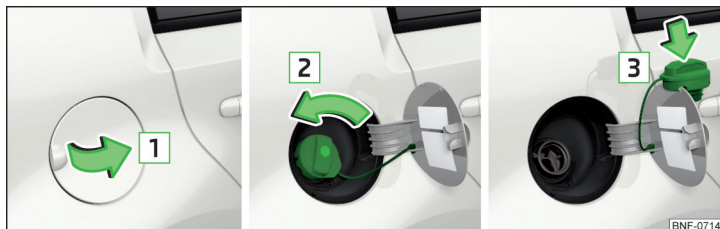

Fig. 103 Opening the fuel filler flap / unscrewing the tank cap / placing the tank cap on the fuel filler flap
The correct fuel grades for your vehicle are specified on the inside of the fuel filler flap » Fig. 103 on page 103.
- Open out the fuel filler flap in the direction of arrow **1** » Fig. 103.